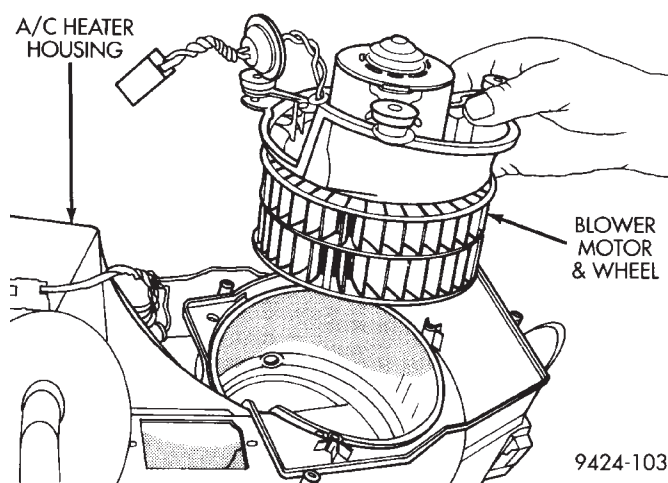

Fig. 90 Blower Motor
(14) Position the evaporator probe assembly at the housing face. Twist assembly clockwise to lock tab into slot on housing face.
(15) Install wiring at evaporator temperature probe.
(16) Install blower motor resistor.
(17) Install blower motor into housing (Fig. 90). Install blower motor mounting screws.